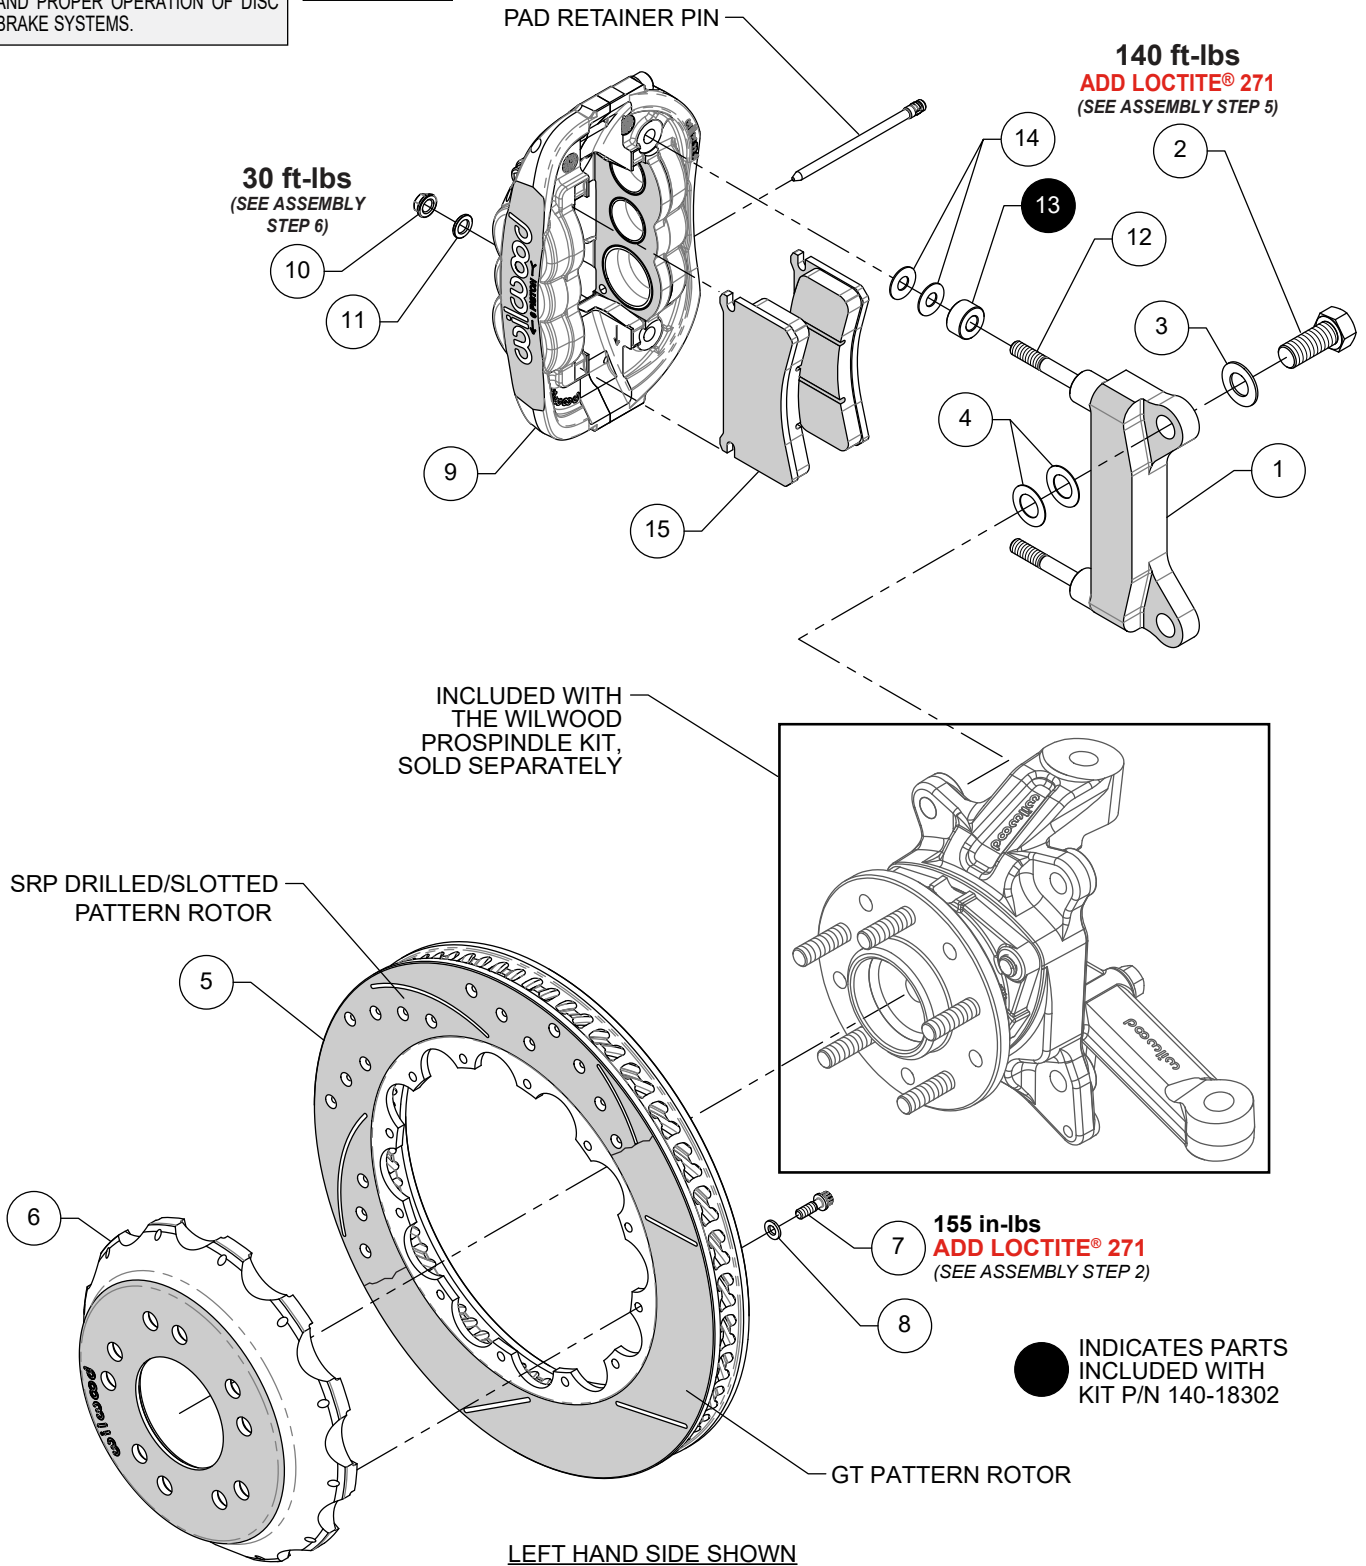
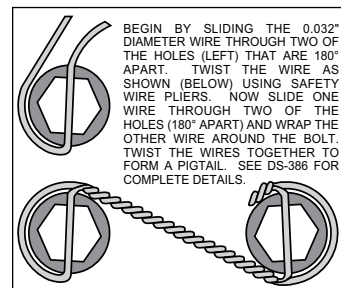

Figure 1. Typical Installation Configuration
Figure 3. Safety Wire Diagram
**NOTE:** Numbers in parenthesis refer to the parts list and Figure 1 on the preceding pages.
**STEP 1** The caliper mount bracket (1) should initially be installed with clean, dry threads on the mounting bolts. Orient the bracket as shown in Figure 1 and Photo 1 and install using mount bolts (2) and washers (3). Initially place two .024" thick shims (4) on each bolt between the bracket and spindle, Figure 1. Temporarily tighten the mounting bolts. **NOTE:** The bracket must fit squarely against the mounting points on the spindle. Inspect for interference from casting irregularities, machining ridges, burrs, etc. Later, after the caliper alignment has been checked, the mount bolts will be secured using red *Loctite*® 271.
**STEP 2** Orient the rotor (5) and the hat (6) as shown in Figure 1 and Photo 2. Attach rotor to hat using bolts (7) and washers (8). Apply red *Loctite*® 271 to the bolt threads and torque to value shown in Figure 1 using a criss-cross pattern. For an added measure of security, the bolts may be safety wired using standard 0.032 inch diameter stainless steel safety wire as shown in Figure 3. Please refer to Wilwood's data sheet DS-386 (available at [www.wilwood.com/Pdf/DataSheets/ds386.pdf](http://www.wilwood.com/Pdf/DataSheets/ds386.pdf)) for complete safety wire installation instructions.
•For kit p/n 140-18300: Initially place two .035" thick shims (14) on each stud (12) as shown in Figure 1 and Photo 4a.
•For kit p/n 140-18301: Place spacer (13) and initially two .035" thick shims (14) on each stud (12) as shown in Figure 1 and Photo 4b.
**STEP 5** Mount the caliper (9) onto the bracket (1) using lock nuts (10) and washers (11), Figure 1. Ensure that the caliper is mounted so the largest pistons are at the rotor exit end of the caliper, in relation to the direction of rotor rotation. Temporarily tighten the lock nuts and view the rotor through the top opening of the caliper. The rotor should be centered in the caliper, Photo 5. If not, adjust by adding or subtracting shims (4) between the bracket and the spindle. Always use the same amount of shims on each of the two mounting bolts. Once the caliper alignment is correct, remove the bracket mounting bolts one at a time, apply red *Loctite*® 271 to the threads, and torque to value shown in Figure 1.
**STEP 6** Remove the caliper, then remove the two pad retaining pins from the caliper (9), Figure 1. Insert the brake pads (15) into the caliper from the bottom, with the friction material facing the rotor, as shown in Photo 6. Secure the brake pads in place with the pad retaining pins, Figure 1. **CAUTION:** Ensure pad retaining
*pins are completely engaged into caliper.* It is recommended to use a small flat punch and hammer to tap the pins in until they are fully seated. Check that the top of the brake pad is flush with the outside diameter of the rotor, Photo 7. If not, adjust by adding or subtracting shims (14) between the caliper and the bracket. After the caliper pad height is set, torque the caliper lock nuts (10) to value shown in Figure 1.